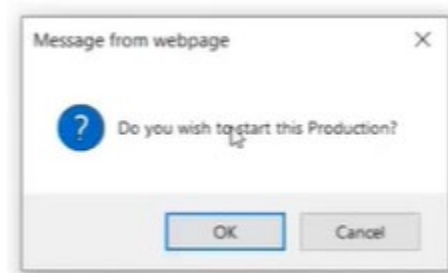

Figure 8-2: Dialog box – start production
2. A dialog box opens with the question **Do you want to start this Production?** Click **OK** (Figure 8-2).